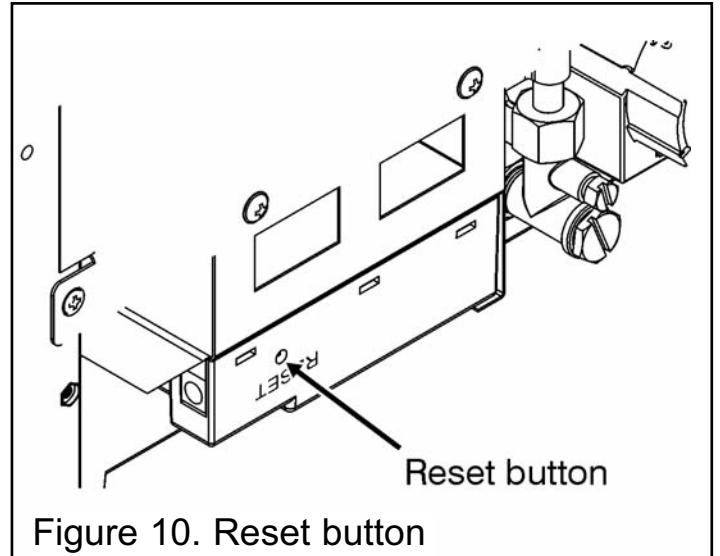

Figure 10. Reset button
Press and hold the reset button on the receiver (See figure 10) until you hear two (2) acoustic signals. After the second, longer acoustic signal, release the reset button.